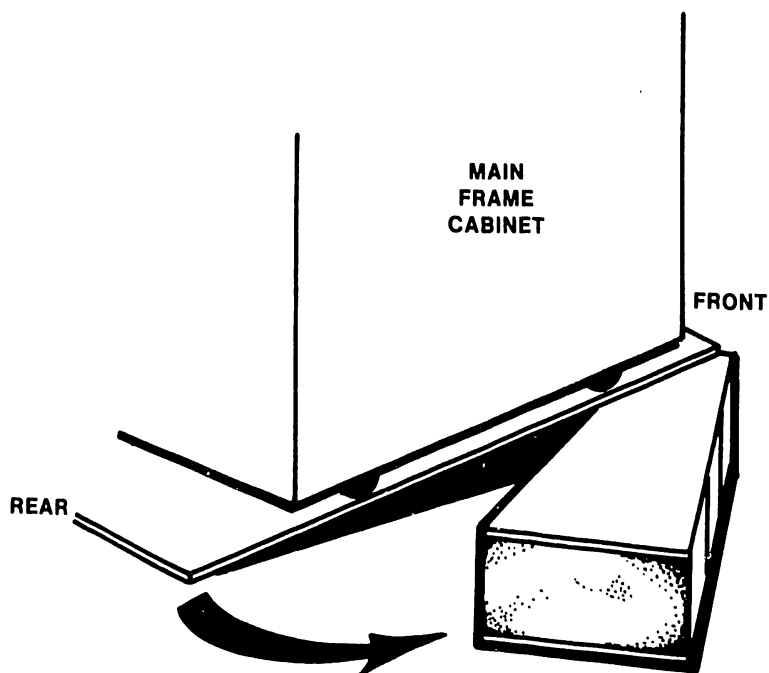

Figure 4-3. Rolling Cabinet Off Cushion Pallet
12. Carefully roll the VS-85 main frame cabinet off the rear of cushion pallet. (See figure 4-3.)